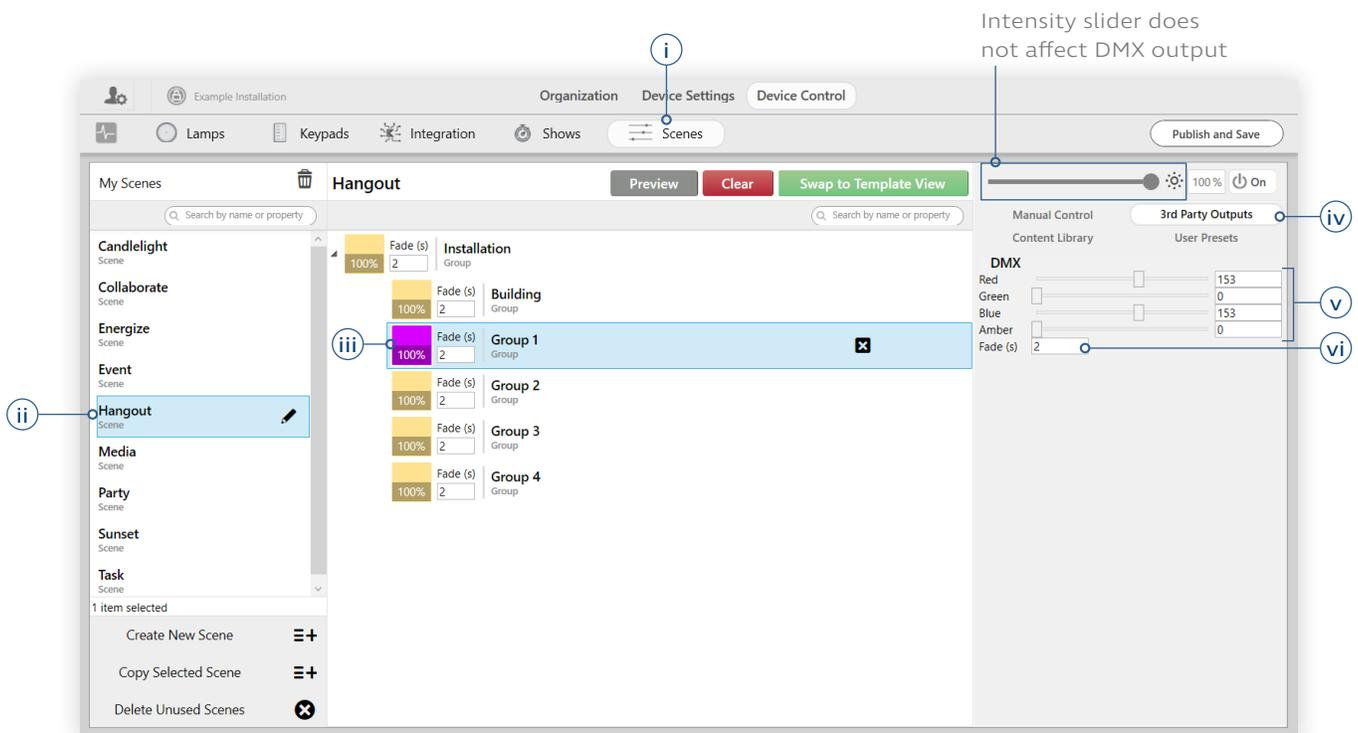

fig. 162
3 Customize the DMX outputs in scenes (See fig. 162)
Example: In fig. 162, when a user triggers the **Hangout** scene, the N3 Satellite will output the values 153, 0, 153, and 0 on channels 7-10 (since **Group 1** contains the output "RGBA chs. 7-10"). The receiving devices should be configured to interpret data from those channels as red, green, blue, and amber, respectively.
- vi Configure the number of seconds it will take the selected output's corresponding receivers to transition to the scene. This is done using the "Fade" text field. **Example:** In fig. 162, when a user triggers the Hangout scene, the receiving devices will transition from their current state to their Hangout state over the course of 2 seconds.